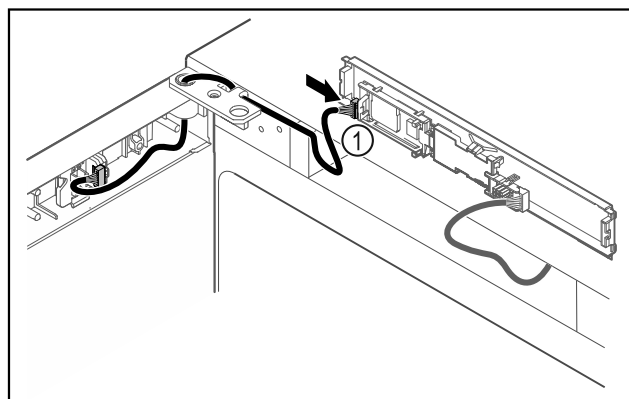

Fig. 43
- Connect the plug Fig. 43 (1) to the circuit board.